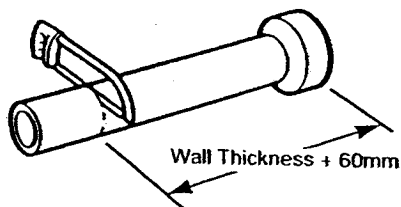

Fig. 23
2. Take the flue duct and mark off wall thickness + 60mm (2 $\frac{3}{8}$  in) from the swaged end of the duct and cut to size (Fig. 23). (Use the tape provided to give an accurate cutting guide by wrapping it around the flue duct with the edge marking the cutting line).